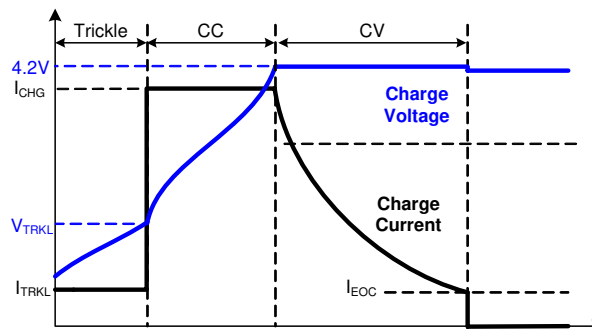

Figure 17. Charge Profile
The MC34674 follows the standard charging profile with trickle, constant-current (CC) and constant-voltage (CV) charge modes, as shown in Figure 17. The trickle-mode current I_{TRKL} is pre-set to 10% of the CC-mode current I_{CHG} when the battery voltage is lower than the trickle-mode threshold V_{TRKL} . In the CC-mode, the output voltage increases until it reaches 4.2 V. Then the charger enters the CV-mode with the output voltage regulated at 4.2 V. The end-of-charge (EOC) current threshold I_{EOC} , which is utilized to indicate the termination of a charge cycle, is preset to 10% of the CC-mode current.
The fast charge contains two modes, the constant-current (CC)-mode and the constant-voltage (CV)-mode. As shown in Figure 17, the charge current is regulated at a constant value in the CC-mode and the charger output voltage is regulated at a constant 4.2 V in the CV-mode. The charge current can be reduced by the die temperature regulation loop when the die temperature reached 110°C. The CC-mode current is set internally by Freescale. Available values are given in Table 6. Consult Freescale for values that are not listed in Table 1.